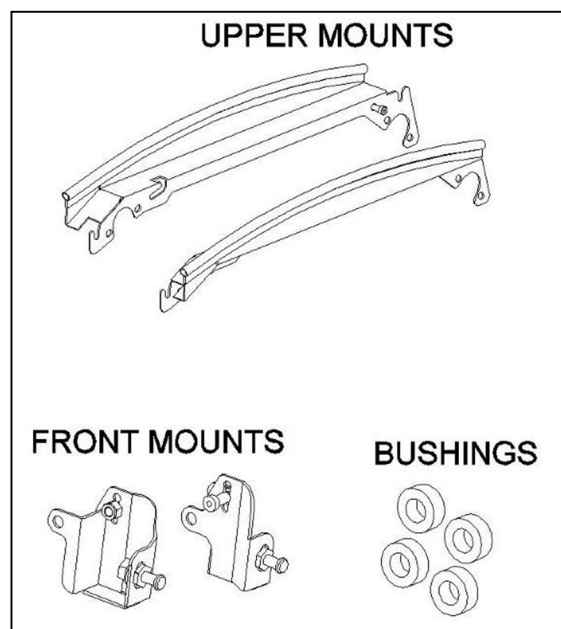

Fig. 1.1 (contents of mount kit)
1.1 If installing just a roof by itself, use just the upper mounts shown in figure 1.1 (not the front mounts or the bushings). If installing a windshield or doors, use all the mount kit components shown.